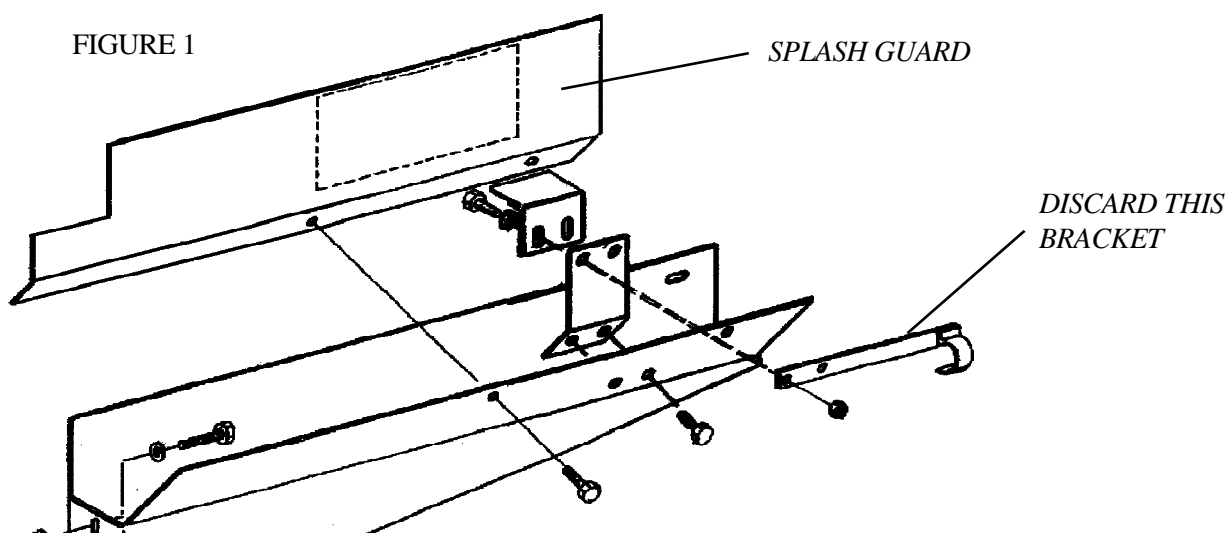

FIGURE 2
4. See FIGURE 2. Remove the HOSE FROM the HUMIDIFIER WATER TANK and cut off the end with the SPRING inside.